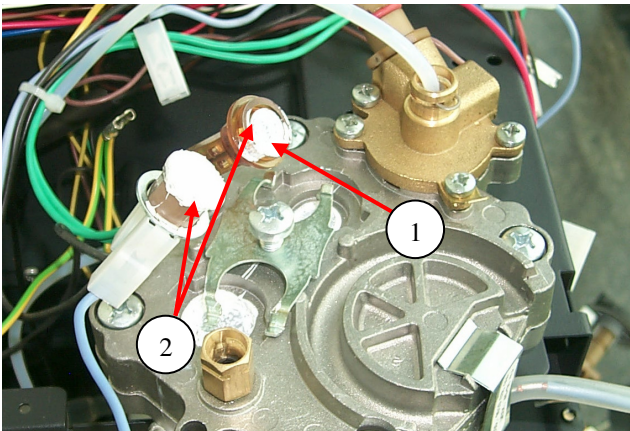

Fig. 24
- d) **Attention:** The metal cylinder (Fig. 24/1) of the thermal sensor (KTY) must be transferred from the old sensor to the new sensor when the sensor is replaced!.
- e) When re-assembling ensure that sufficient heat conductive paste is used (Fig. 24/2).
- c) Remove the gear fixing screws (1).